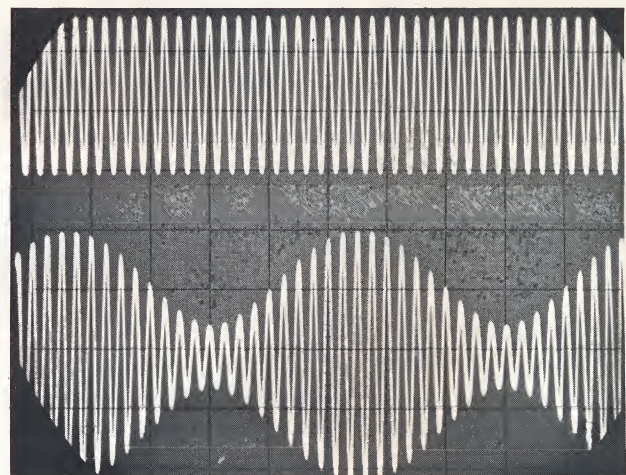

Figure 3. Reconstructed signal at 20 kHz IF Output. Input signal: 125 MHz cw (upper trace); 125 MHz cw with 1,000 Hz, 60% AM (lower trace).
**RF to AF converter.** Because of the coherent sampling principle used in the 8405A, all rf frequencies are reconstructed at a low frequency of 20 kHz. This frequency can be observed on a low-frequency oscilloscope, wave analyzer, spectrum analyzer, etc. Modulation analysis can be performed since typical low-frequency modulation signals such as 400 Hz and 1,000 Hz are maintained on the IF output as shown in Figure 3. Thus, an inexpensive oscilloscope can read percentage AM on an rf carrier as high as 1 GHz, a wave analyzer can analyze modulation sidebands for distortion, and an audio spectrum analyzer can resolve and display narrow band modulation on an rf carrier. Since the 20-kHz output is constant and independent of the drift of the rf signal, displays are stable and jitter free.